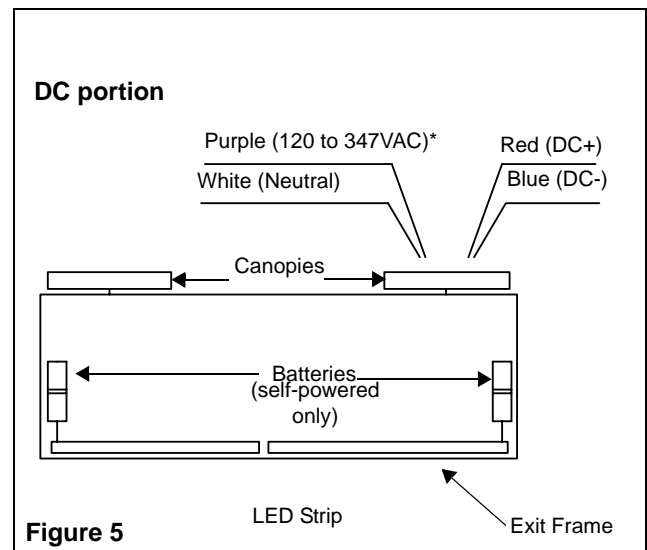

Figure 5
5. Make the proper connections. On the standard universal model, our unit accepts an input voltage of 120 VAC to 347 VAC (see fig. 5).
Refer to fig. 5 for AC & DC wiring.